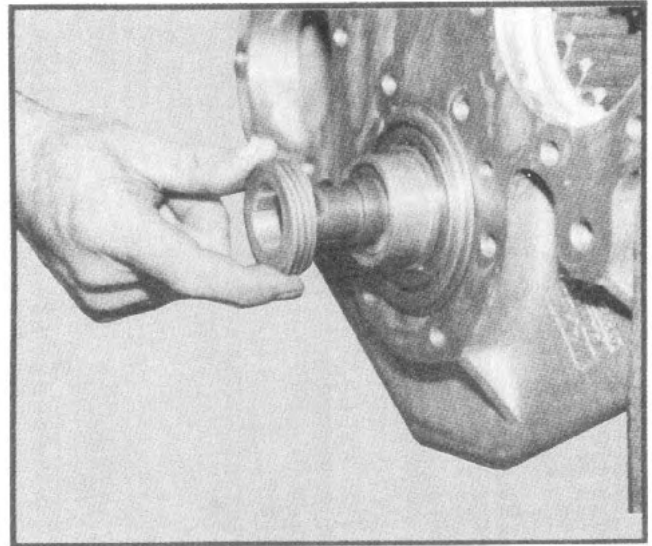

Fig. 16
9. Place speedometer drive gear spacer ring (.082" wide) over front of shaft and against front bearing. Place speedometer drive gear over front of shaft (See fig. 16). Secure locknut to front of shaft and tighten nut to correct torque.